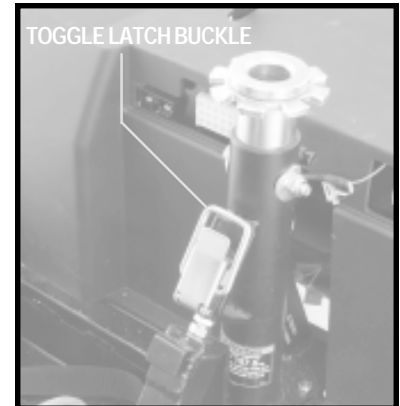

Figure 22. Buckle Secured
2. Position the toggle latch buckle over the top of the toggle latch. See figure 22.